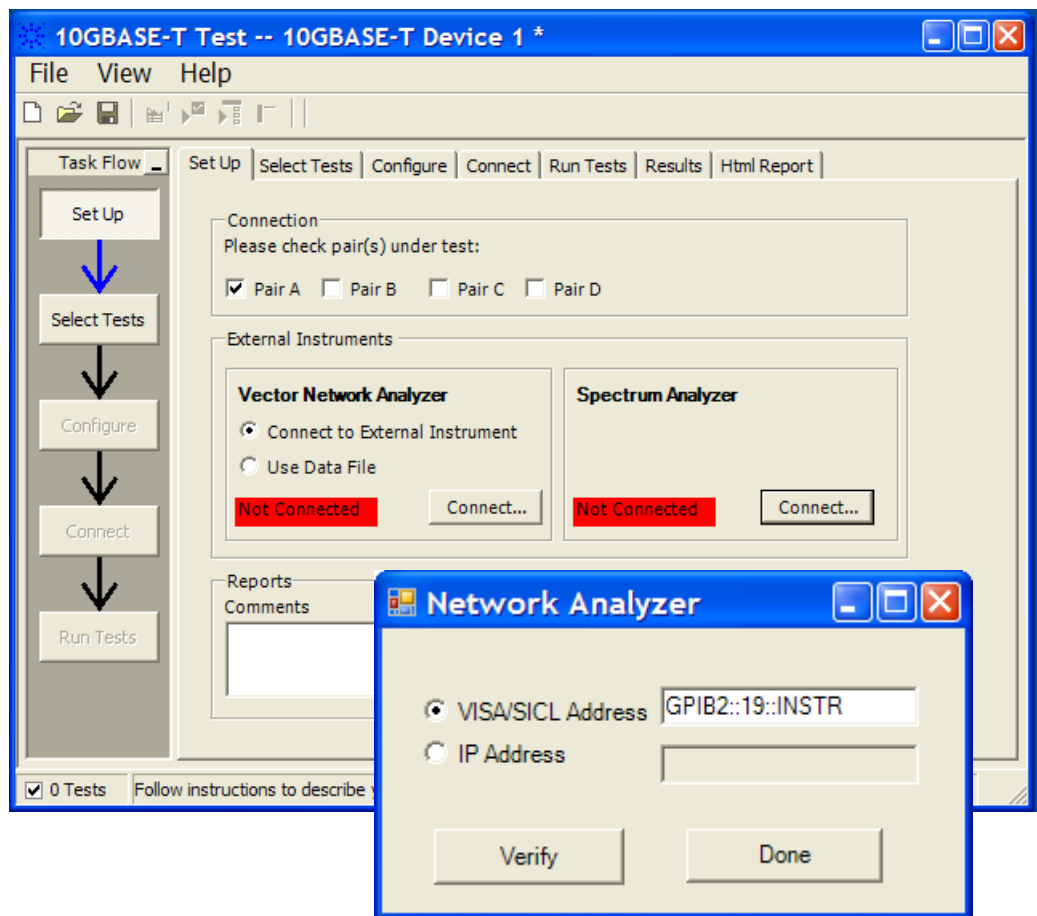

Figure 28 Setup page and vector network analyzer pop-up box
- 8 Ensure that the application detects the vector network analyzer connection to the oscilloscope. Else, click on the Connect... button in the Vector Network Analyzer External Instruments group. A pop-up box will appear where you can enter either the VISA/SICL address or the IP address. Enter the information and click the Verify button, followed by the Done button to close this box. The VISA/SICL address or the IP address can be obtained from the IO Control Connection Expert application, as shown in Figure 28.